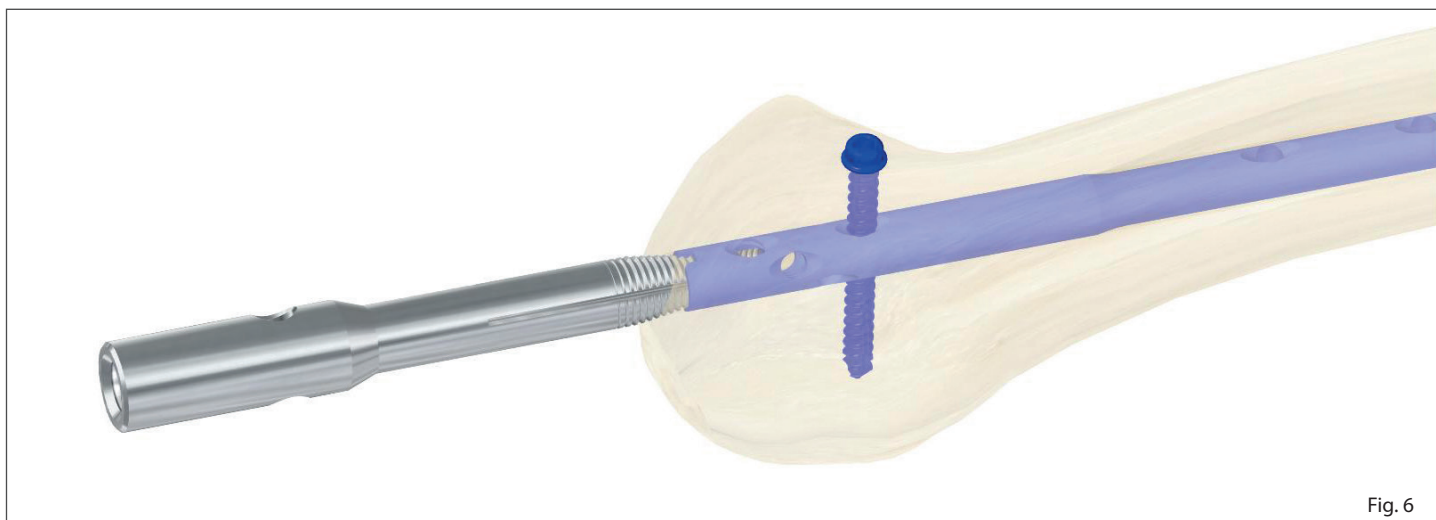

Fig. 6
**Screw the extractor into the nail before the extraction of the last screw.** (Fig. 6)